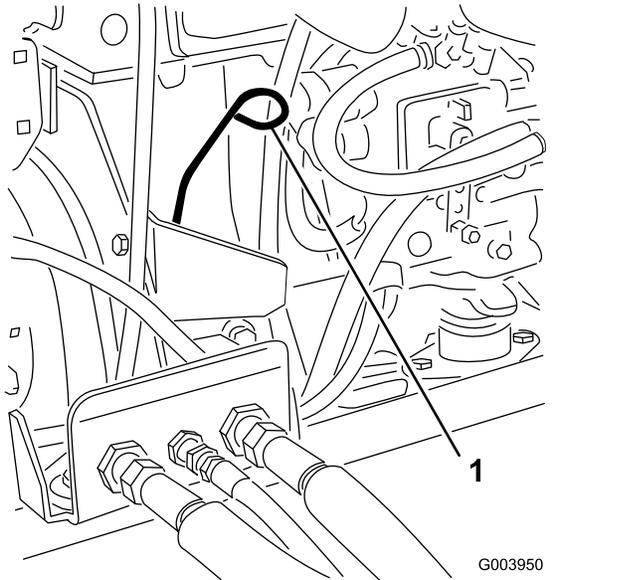

Figure 76
3. Remove the dipstick, wipe it clean, and install it (Figure 76).